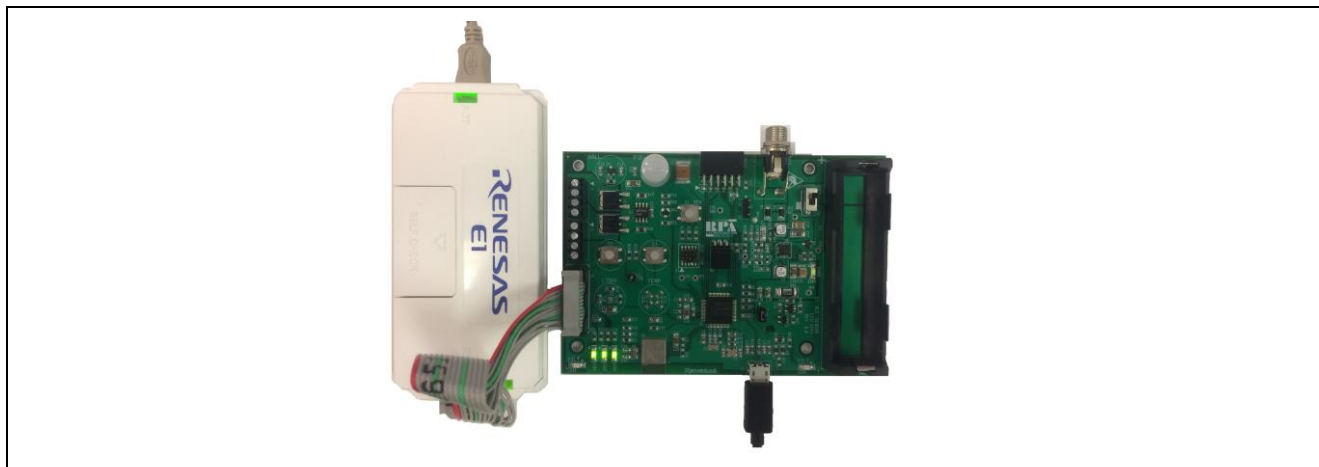

Figure 8 RL78/G1D device Hardware Programming/Debugging setting
- Step 1.** Connect the Renesas E1 programmer/Debugger to connector J9 on the Sensor Panel board. See Figure 8 for connection.